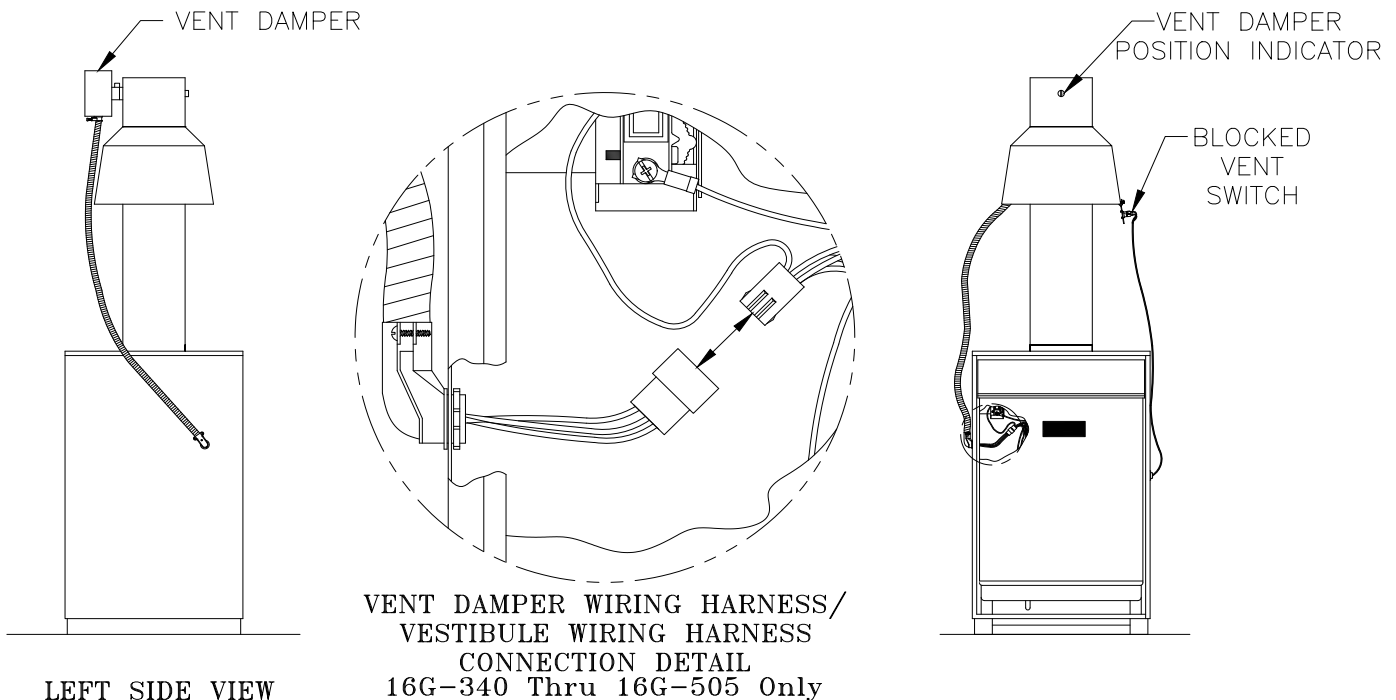

Figure 24: Vent Damper Installation
E. Boiler Equipped With Vent Damper. See Figure 24.
B. Wire Vent Damper (if used; optional) See Figure 24.
3. Plug Vent Damper Harness Plug into Vent Damper Receptacle. See Figure 24.